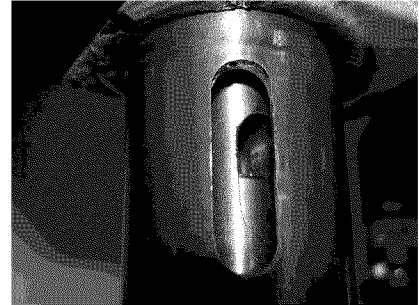

Figure 6A
- Lower the spindle as far as it will go to reveal the spindle slot. **See Fig.6A**